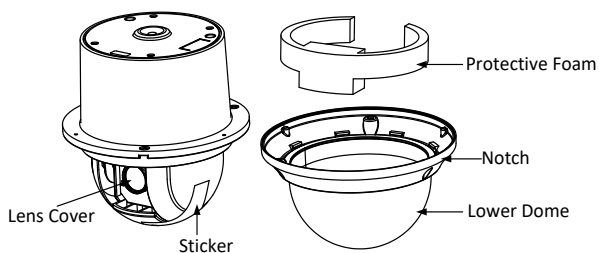

Figure 2-20 Disassemble the Speed Dome
- (1) Loosen three screws on the notch.
- (2) Remove the lower dome.
- (3) Remove the protective lens cover, foam, and sticker from the dome drive as shown in Figure 2-20.